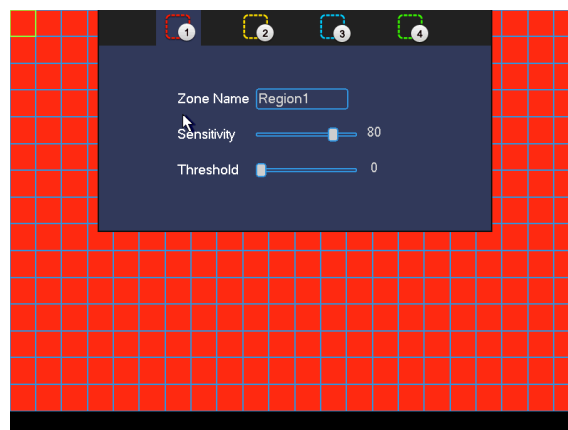

Figure 4-64
- Region: Click select button, the interface is shown as in Figure 4-64. Here you can set motion detection zone. There are four zones for you to set. Please select a zone first and then left drag the mouse to select a zone. The corresponding color zone displays different detection